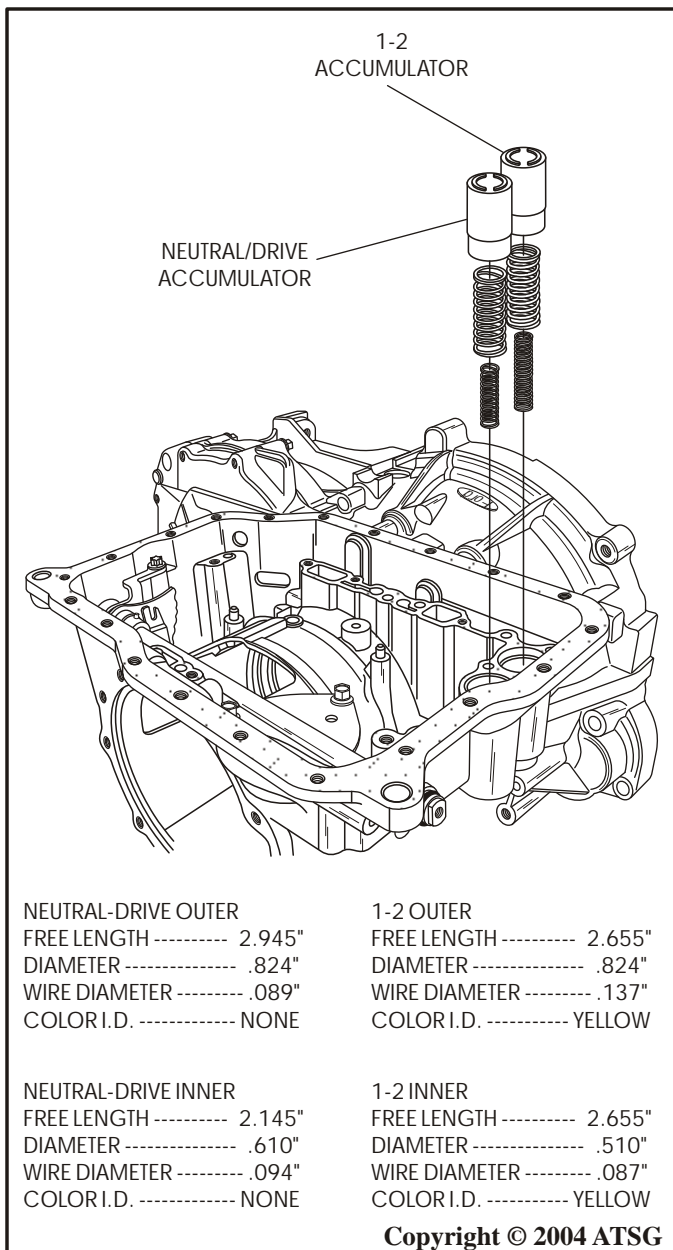

Figure 41
37. Remove the neutral/drive and 1-2 accumulator pistons and springs, as shown in Figure 41.
Note: Each of the two accumulators have two springs. All four springs are different sizes. Spring specifications are listed in Figure 41.